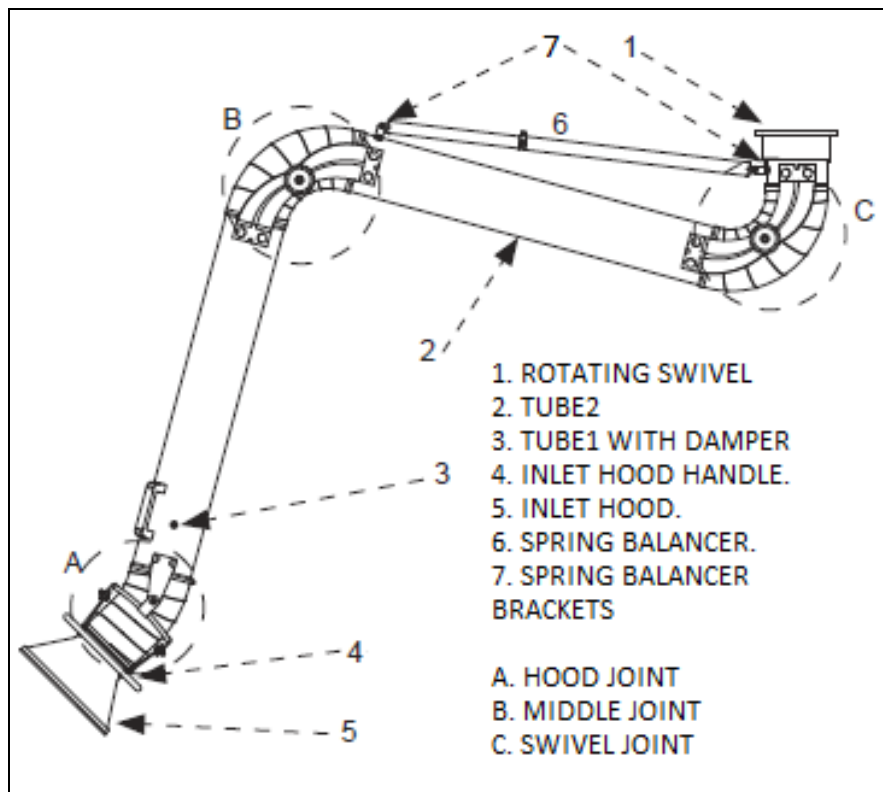

FIG1 – Fume Arm Components
4. To install the spring balancer, set the swivel joint (C) in FIG1 at 45 degrees and attach the eyelet of the spring balancer closest to the SPRING RETAINER to the SPRING MOUNTING BRACKET (8) located near joint (B) and the other eyelet to the SPRING MOUNTING BRACKET (8) at the ROTATING SWIVEL (1).